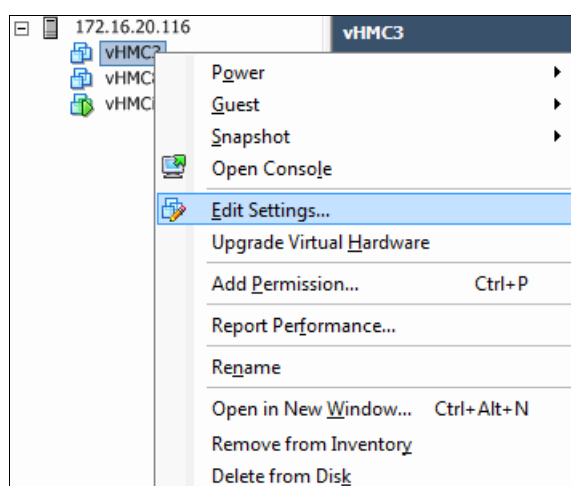

Figure 3-42 Edit VM settings
- From the main vSphere panel, right-click the freshly deployed vHMC, and select **Edit Settings** (Figure 3-42).